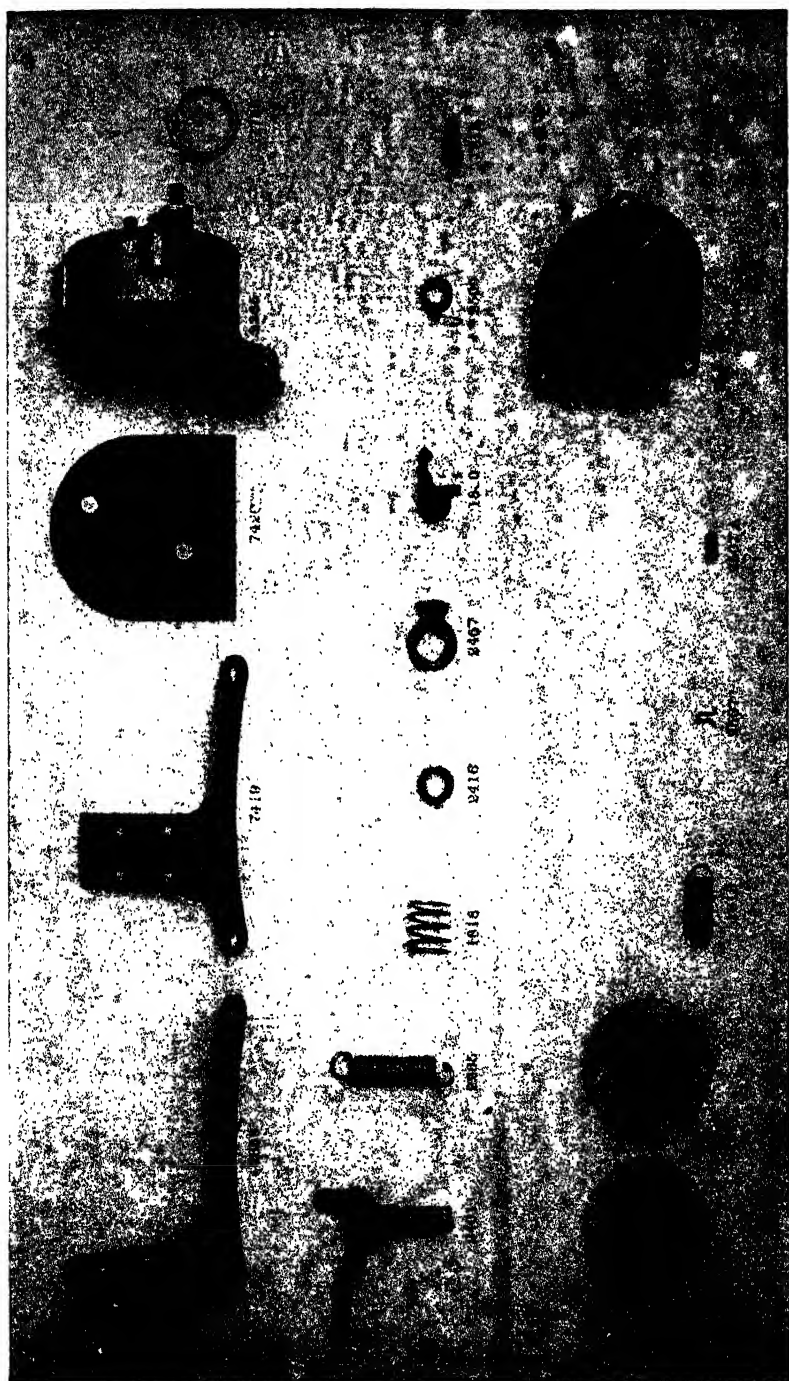
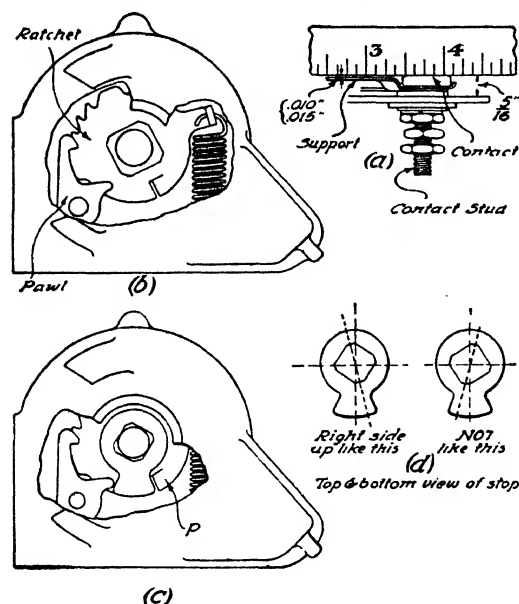

Fig. 306. View of Essential Parts of North East Starting Switch
Fig. 307. Assembly of Starting Switch
Starting Switch. When its operation indicates that the contactor blades have worn, the starting switch should be dismantled, and, if necessary, new blades should be inserted. To disassemble the switch, proceed as follows: (1) Remove the spring 2265, Fig. 306, on the switch case 2365; (2) remove the cotter pin from the collar 2416; (3) withdraw the shaft and lever 2401, together with the spring 1818; (4) remove the three screws which hold the cover 2404 in place,
The upper surfaces of the supports must be $.010$ to $.015$ inch lower than the contact surface of the block. Care should be taken that the upper surface of the contact blocks are $\frac{5}{16}$ inch above the inner surface of the cover. A small steel straightedge laid upon the face of the contact block and extended over the supports, as shown in Fig. 307 (a), will serve as a means of checking these dimensions.
Before placing in service, the contact surfaces must be carefully cleaned and lubricated with a very small quantity of vaseline. To reassemble the switch: (1) Connect the spring 1813, Fig. 306, to the arm of the ratchet; (2) place the contactor member 2344 in the switch case in such a position that the ratchet will lie against the pawl 1830; and (3) hold the switch case in the left hand, lever side up, and insert the right forefinger through the hole in the switch case and introduce the pawl into the first notch of the ratchet, Fig. 307 (b); (4) hold these parts carefully in position and replace the cover 2404, Fig. 306, fastening it to the switch case by means of the three screws; (5) insert the stop through the hole in the switch case and replace it upon the ratchet plate in such a position that the elongated portion of the stop will lie between the raised projection which is found on the ratchet plate and the end of the short lever on the pawl as shown in Fig. 307 (c). It is very important that the stop be placed in the switch right side up, Fig. 307 (d) illustrating the proper method of doing this. (6) Place the spring on the shaft and replace the shaft in the switch, taking care while entering the shaft not to disturb the arrangement of any of the switch parts; (7) replace the collar and the cotter pin; and (8) connect the spring 2265 with the lug on the switch case. A drop of light oil should be applied to the bearing point at each end of the switch shaft 2401.